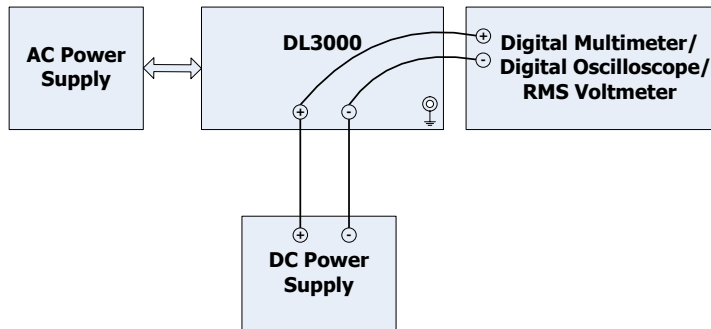

Figure 2-2 CV Test Connection
Before performing the test, select the appropriate AC voltage via the "AC Selector" on the rear panel of the electronic load according to the AC voltage standard of your country (230 Vac is taken as an example in all the tests in this manual). At room temperature (25°C), connect the recommended devices specified in "**Recommended Test Devices**" according to the connection method in Figure 2-2. During the test process, please set the AC voltage according to the selected voltage in "AC Selector" on the rear panel of the electronic load.
1. Power off DL3031A. Connect DL3031A, AC power supply, DC power supply, and a digital multimeter according to Figure 2-2 (Pay attention to the connection method for the channel input terminals of DL3031A and the digital multimeter). Connect the USB DEVICE interface on the rear panel of the electronic load to the PC via the USB cable.